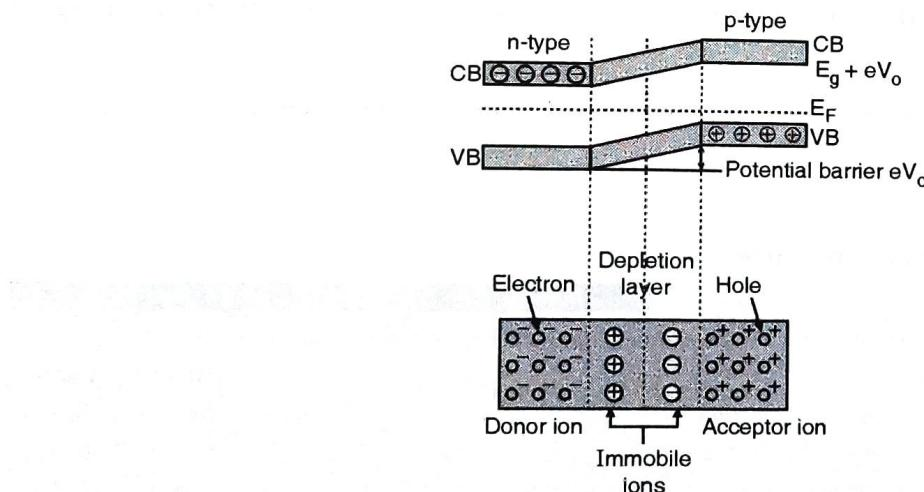

Fig. 3.9.2 : Unbiased p-n junction
- As the diffusion takes place across the junction the holes and the electrons combine to neutralise each other at the junction and produce a free space called **depletion layer** as shown in Fig. 3.9.2.
- At the junction due to the migration of a few holes from p-type to n-type region, the negative immobile ions are produced in p-region and in the same way positive immobile ions are produced in n-region as shown in Fig. 3.9.2.